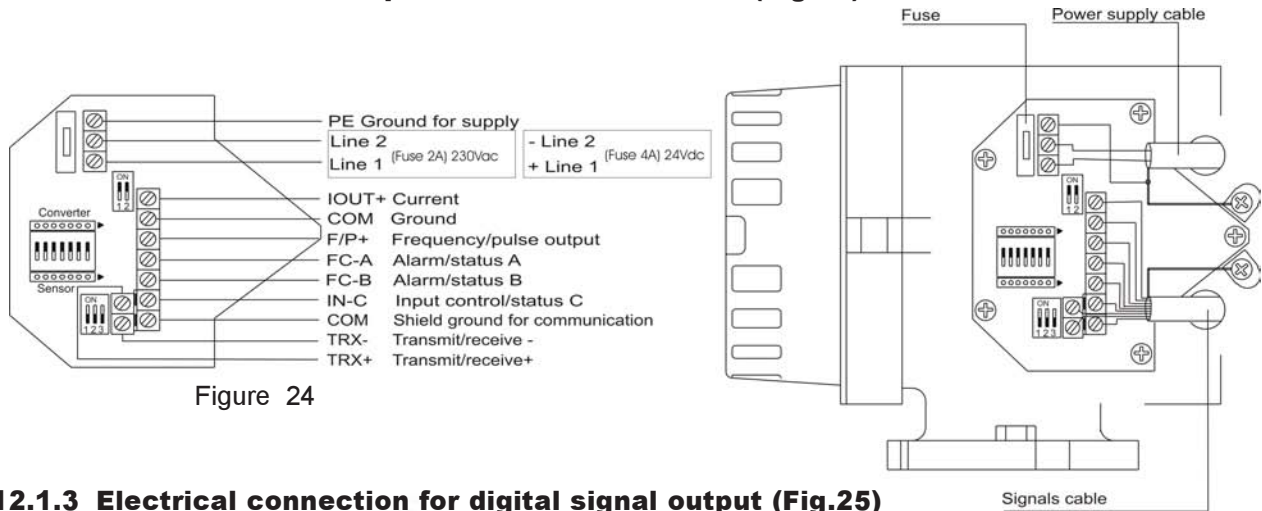

Figure 24
12.1.2 Connection for compact and remote version (Fig.24)